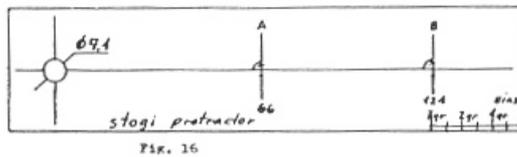

Fig. 16
(Fig. 16)
For a distance of 212 mm from record centre to centre of tonearms horizontal rotation the optimum overhang is 18 mm and the effective length, ie. distance from the centre of tonearm horizontal to the tip of the cartridge is 230 mm. This is gained with offset angle of 24° , and gives a maximum tracking error of under 2° and distortion of under 1 %. These are harmonics of the second order which are not so irritating as the third which are very common in amplifiers. (Fig. 16 a)
Fig. 16 a
2. Place protractor over spindle on platter. (Fig. 16)
3. Alignment at zero point 66 mm (A)